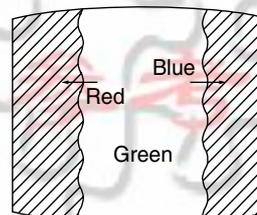

Fig. 4-3
5. Move the deflection yoke forward and adjust so that the entire screen is green. (See Figure 4-3.)